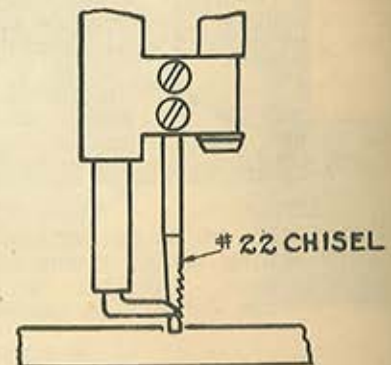

Figure 10
With the Nos. 11 and 22 chisels, adjust the clearance so that at the top of the stroke the tip of the chisel remains 1/16 inch in the material being cut, as shown in figure 10. To have the tip of the Nos. 11 and 22 chisels come out of the work reduces their efficiency.
5. **CLEARANCE.** With the No. 25 chisel, adjust the clearance so that the cutting edge of the chisel at the top of the stroke is just below the bottom of the chisel guide. When using the No. 22, adjust the clearance so that the lowest tooth is just level with the bottom of the chisel guide as shown in figure 10.